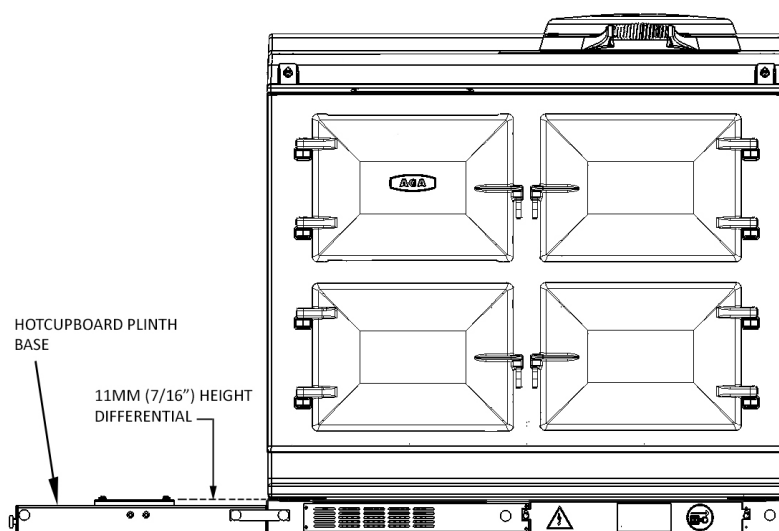

Fig. 5.3
2. Position the plinth alongside the AGA Signature (eR7i) leaving no gap between the two plinths (**Fig. 5.3**).